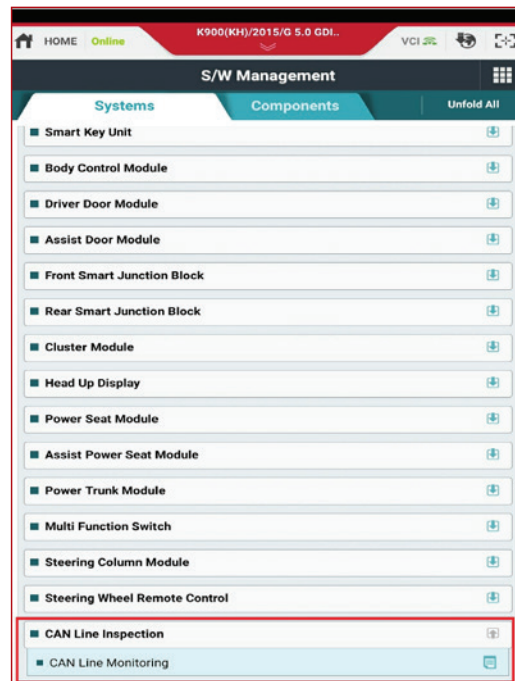

Fig. 2.
2. Once the S/W screen list of Systems is displayed; select "CAN Line Inspection", then select "CAN Line Monitoring" (Fig. 2).